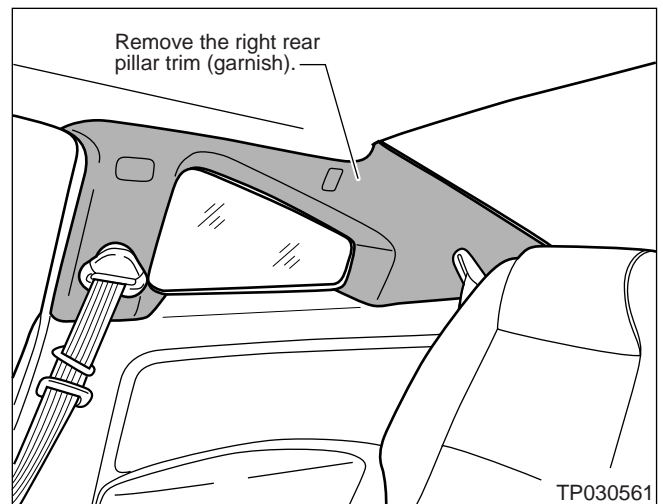

Figure 6
1. Confirm the noise is coming from the area shown in Figure 6 (right rear pillar).
2. Remove the right rear pillar trim (see Figure 6).